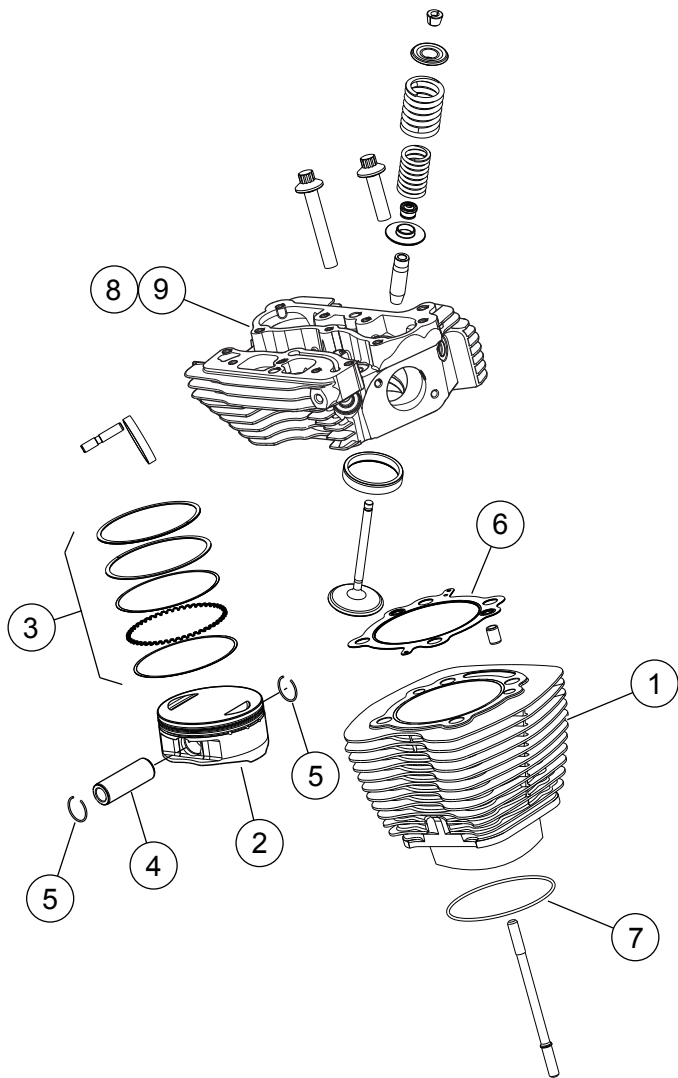
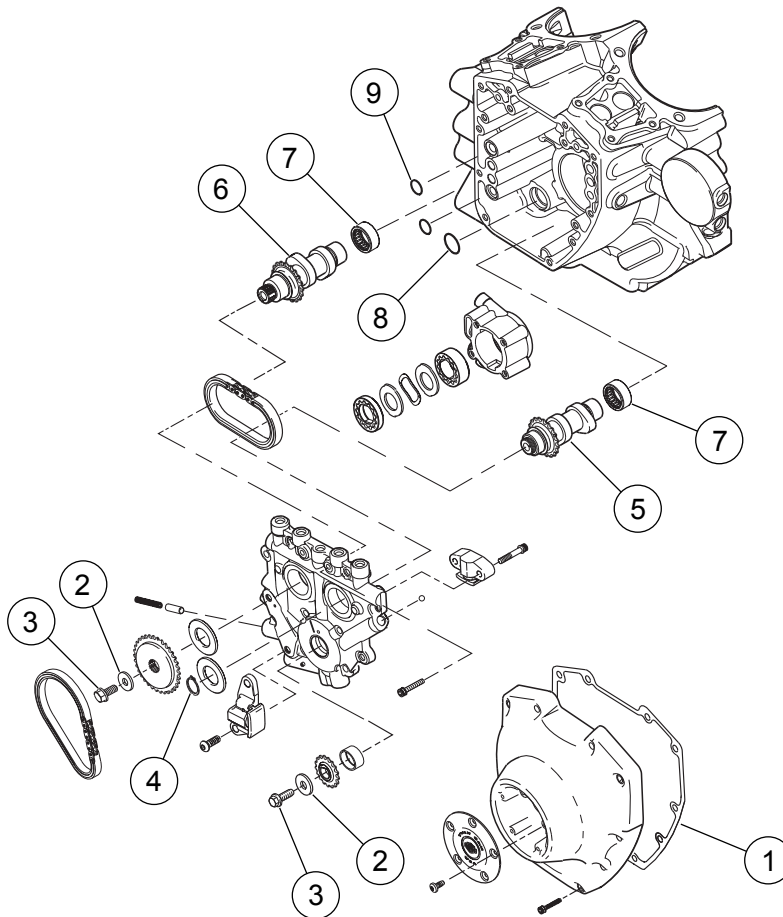

Figure 1. Service Parts: Screamin' Eagle Pro TC 103 (1690 cc) Stage 4 Kit
Figure 3. Service Parts: Screamin' Eagle Pro TC 103 (1690 cc) Stage 4 Kit
See Figure 1 to Figure 3, and Table 1 to Table 3.
1. See Figure 3. Inspect camshaft needle bearings (7) and replace if necessary.
2. See Figure 1 through Figure 3. Assemble cams to cam plate, performance cylinder heads and engine top end using parts from kit. Transfer ACR and coolant coupling fittings from stock heads to heads in kit. Refer to appropriate ENGINE sections in service manual.